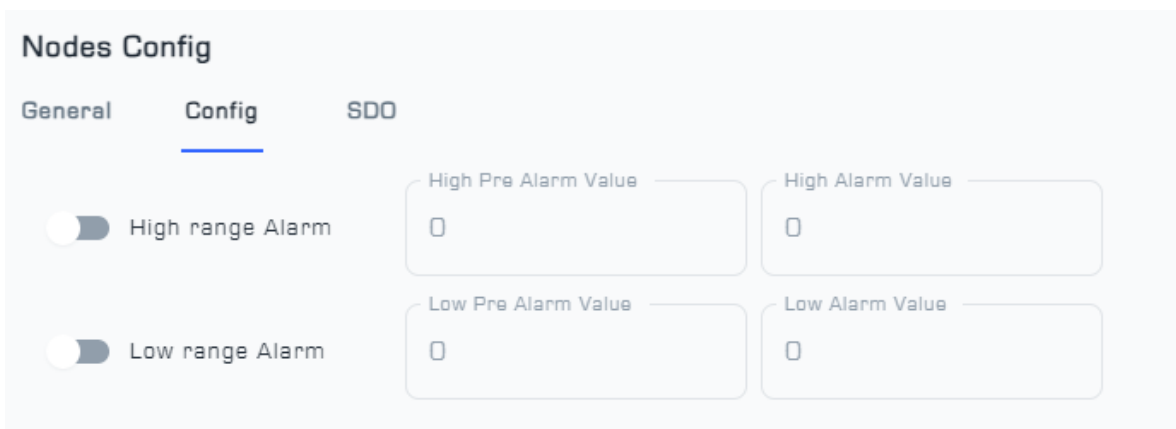

Figure 6: Config Menu from Node Setting page
■ In the Config menu of the wireless DC Voltage Level Node, as shown in Figure 6, the alarm settings of the Node can be configured. The High Alarm Value and High Pre-Alarm Value are related to setting the alarm and pre-alarm for the maximum danger value for the Node, and the Low Alarm Value and Low Pre-Alarm Value are related to setting the alarm and pre-alarm for the minimum danger value for the Node.